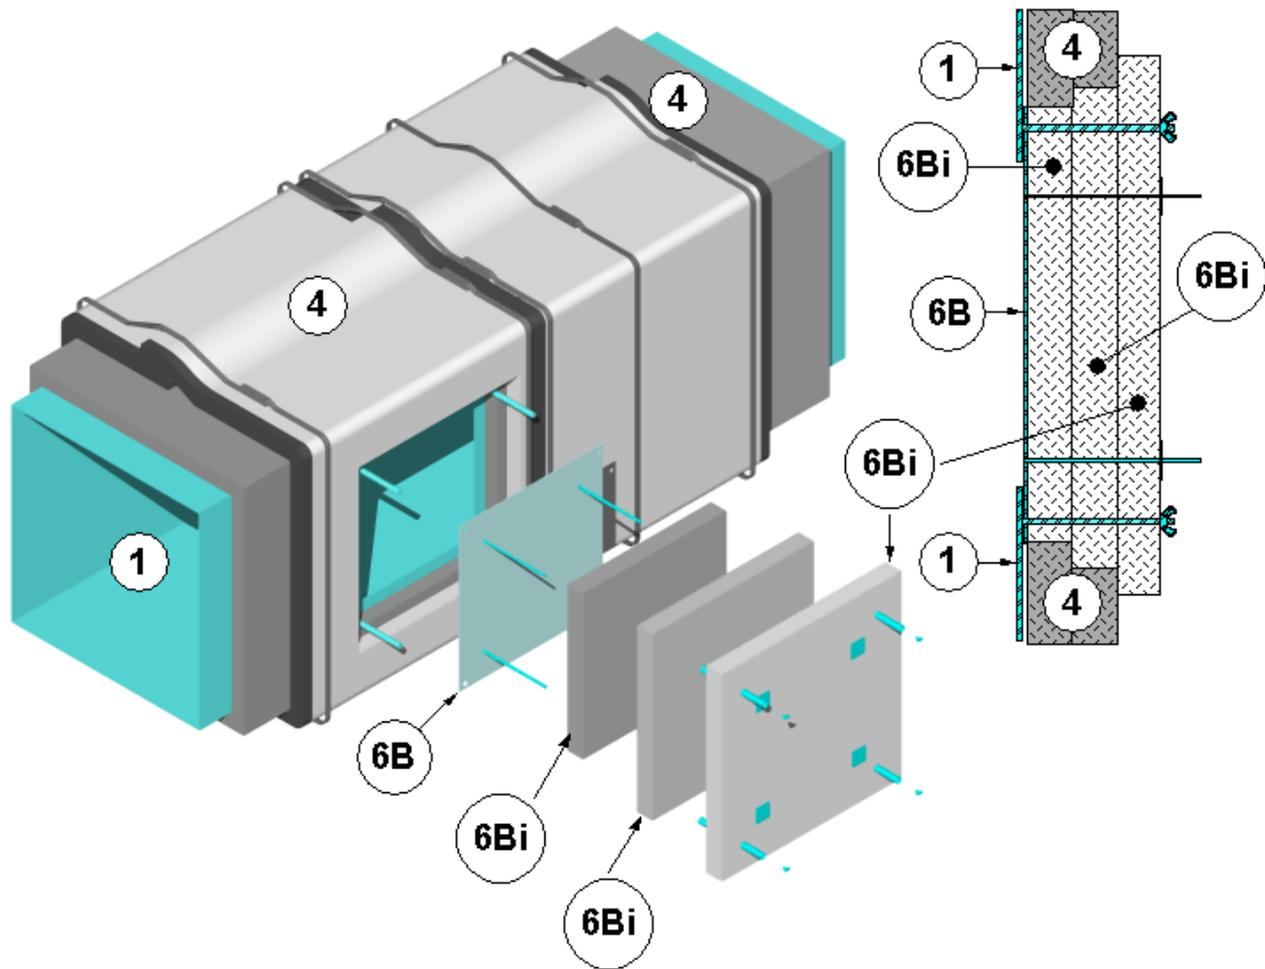

Figure 3 – Field Fabricated Access Door
B. OPTIONAL FIELD-FABRICATED ACCESS DOORS: Refer to Figure 3. Mark a clean-out access opening location on the insulated grease duct (Item 1) at its mid-height along the horizontal section. Cut a 26x20 in. opening in the duct insulation (Item 4). Remove and discard the cut duct insulation (Item 4). Cut and center a 24x18 in. opening into the side of the grease duct (Item 1) by maintaining a 1 in. clearance between the perimeter of the opening and the cut duct insulation (Item 4). Remove and discard the cut steel. Weld four (4), minimum 4 in. long, 1/4 in. diameter, all-thread, steel rods to the grease
ACCESS INSULATION: Refer to Figure 3. Apply three (3) layers of access insulation over the field-fabricated access door (Item 6B) as follows. Cut the first piece of access insulation a minimum 1 in. larger than the clean-out access opening and install it over the duct insulation pins, the four (4), 3/8 in. diameter, all-thread, steel rods, and cover the field-fabricated access door (Item 6B). Press the first piece of access insulation flush over the field-fabricated access door (Item 6B). Compress and abut the cut edges of the first piece of the access insulation against the cut edges of opening in the duct insulation (Item 4). Cut a second piece of access insulation 1 in. larger on all sides than the first piece of access insulation. Square it and install it over the insulation pins and the four (4), 3/8 in. diameter, all-thread, steel rods. Press the second piece of access insulation flush over the first piece of access insulation. Compress and abut the cut edges of the second piece of the access insulation against the cut edges of opening in the duct insulation (Item 4). Cut a third piece of rectangular access insulation a minimum of 2 in. larger than the second piece of access insulation on all sides, creating a "stair-step." Seal cut edges of the third piece of access insulation with nominal 4 in.-wide aluminum foil tape. Position, square, and impale